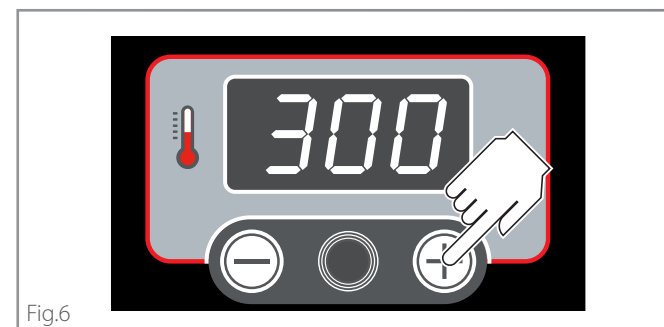
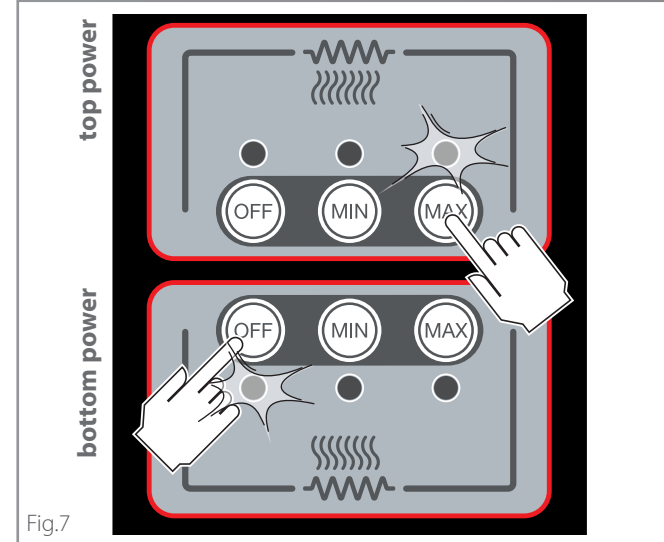

Fig.6
Fig.7
► **Fig.6**
► **Fig.7**
- Set a cooking cycle with the desired parameters (► **Fig.6 - Fig.7**).